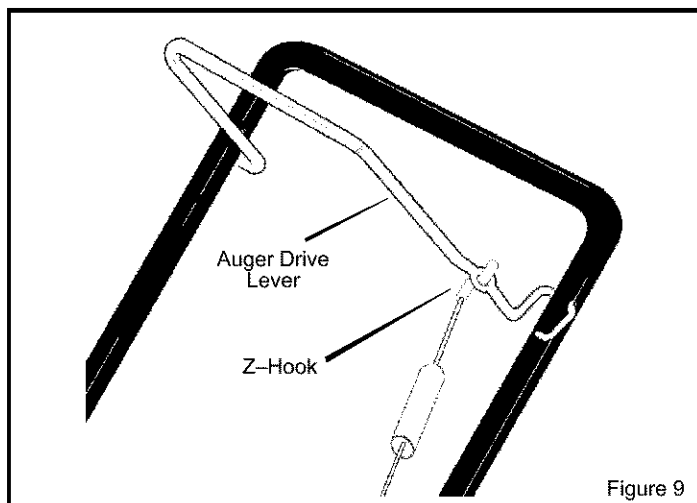

Figure 9
1. Remove the "Z" hook from the **auger drive lever** (Figure 9).